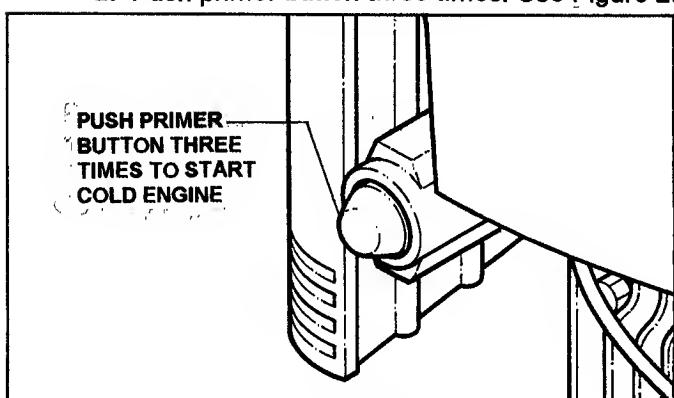

FIGURE 2.1
2. Push primer button three times. See Figure 2.1
2. Push primer button three times. See Figure 2.1.